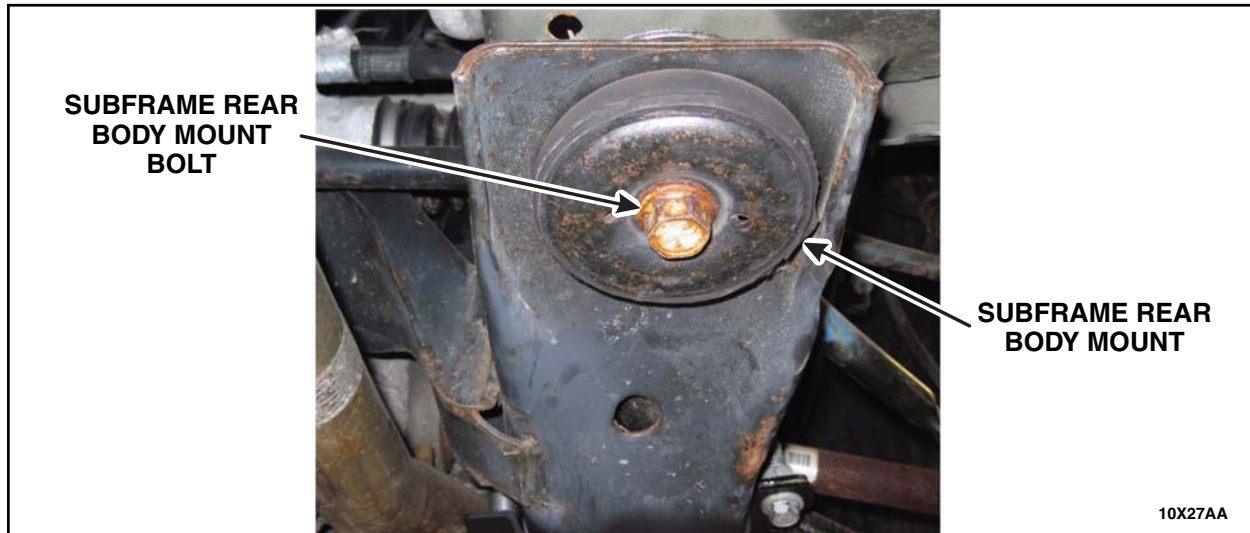

FIGURE 1
2. Remove the passenger side subframe rear body mount and bolt. Discard bolt. See Figure 1.